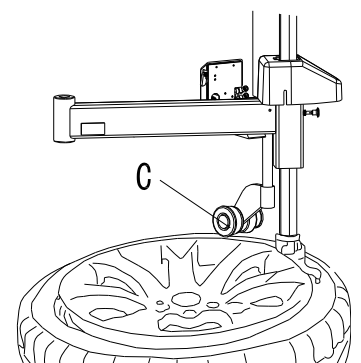

Fig 11
- 3. Nearby demounting/mounting head, insert lift lever N into tyre , use lift lever to lift bead upon knob of demounting / mounting head. Manually rotate roller C to inner side , pull handle D down, make roller C to press rim , keep 3-5mm gap between demounting/mounting head and rim, make sure demounting/mounting head not damage rim, rotate turntable, demount tyre upper bead (Fig 11)**